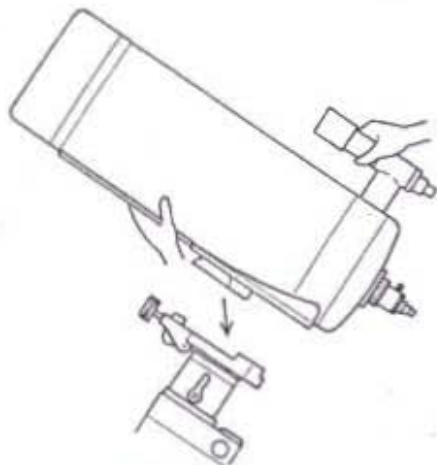

fig.1
2. Loosen the clamp of the Declination and turn the dove-tail adapter as shown in the fig.1.
3. The main tube is so designed that it can be carried at ease, holding its finder. Hold the tube with one hand and grip the finder with the other hand as shown in the fig.1. Set the tube in place, mating the dove-tail adapter and the dove-tail plate attached on the tube. Then, lock the tube firmly by the locking handle.